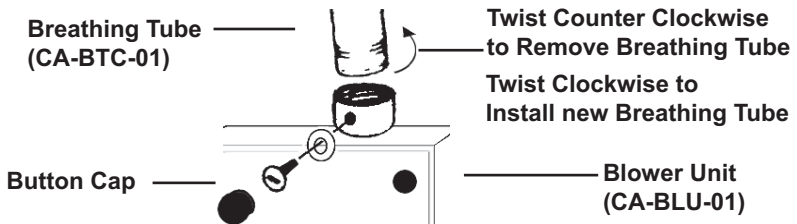

FIGURE 8
- Insert the new Breathing Tube (See Figure 8).